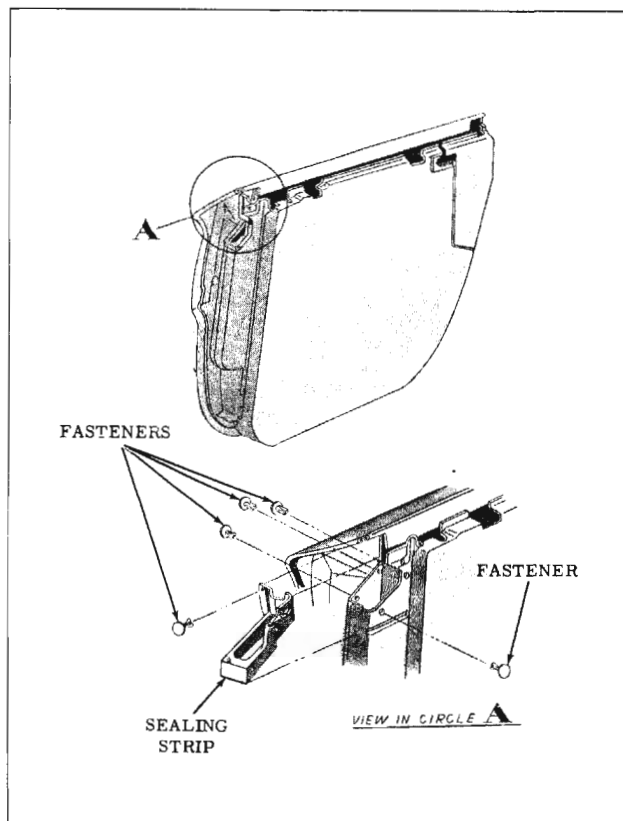

Fig. 16-41 Door Hinge Pillar Sealing (at Belt)
1. Remove snap fasteners securing sealing strip to hinge pillar facing of rear door and remove strip. (Fig. 16-41)